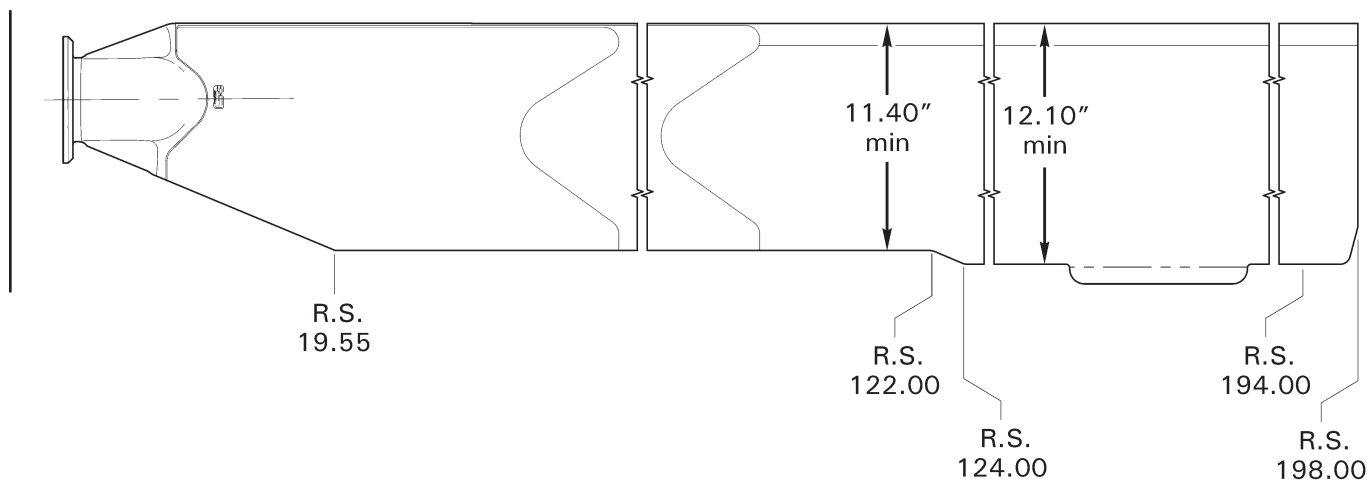

FIGURE 62-16 MINIMUM CHORD AFTER BLADE AND TRIM TAB TRAILING EDGE REPAIRS
2. Refer to Figure 62-16. After repair, verify minimum chord is within the following limits: